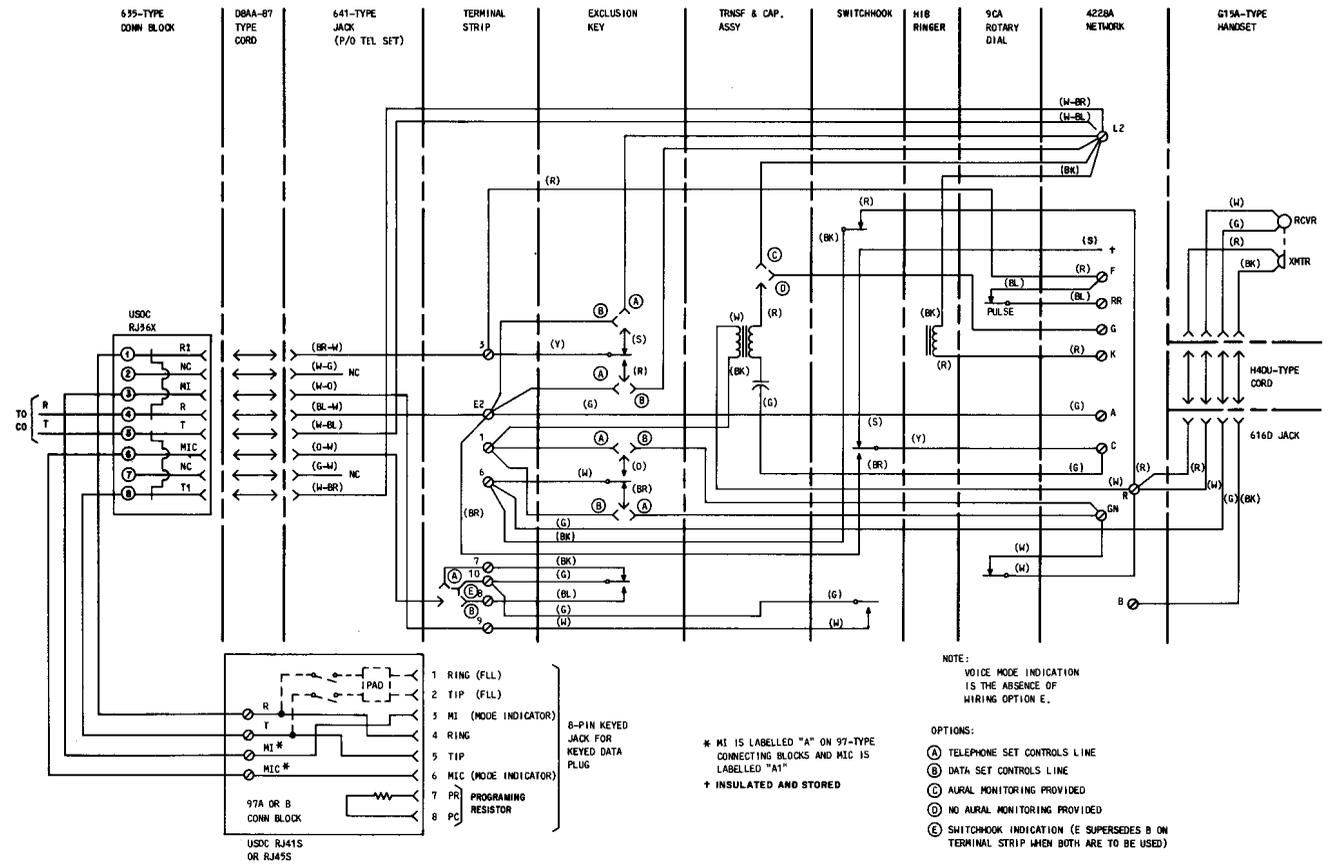

Fig. 11—503CM Telephone Set—Registration Jack Connections
2.26 **USOC RTC:** This is the USOC for the 503CM or 2503CM telephone set which provides exclusion key transfer of the line to either the telephone set or the data set and provides a mode indication to the data set. The set is connected by means of a D8AA-87 cord which plugs into an 8-position series jack (635-type connecting block, RJ36X) and which connects to the data jack as shown in Fig. 11 for the 503CM telephone set or Fig. 12 for the 2503CM telephone set.
2.28 Refer to Fig. 11 or 12 for wiring and connection diagrams for the telephone set. With wiring option B (Fig. 12 or 13) the telephone handset is lifted from the switchhook and the exclusion key lifted for the voice mode. This is usually described as "data set controls the line" because, until the telephone set exclusion key is lifted, the data set has control over incoming and outgoing calls, as it is directly connected to the line. The positive action of going off-hook with the telephone set is required to take the line away from the data set. Operation of the telephone set can be inverted by reversing the exclusion key wiring [wiring option A (Fig. 11 or 12)] so that the telephone set controls the line and the exclusion key must be operated to allow data set connection to the line. With aural monitoring (wiring option C), the telephone handset is bridged on the line on a high impedance basis whenever the handset is